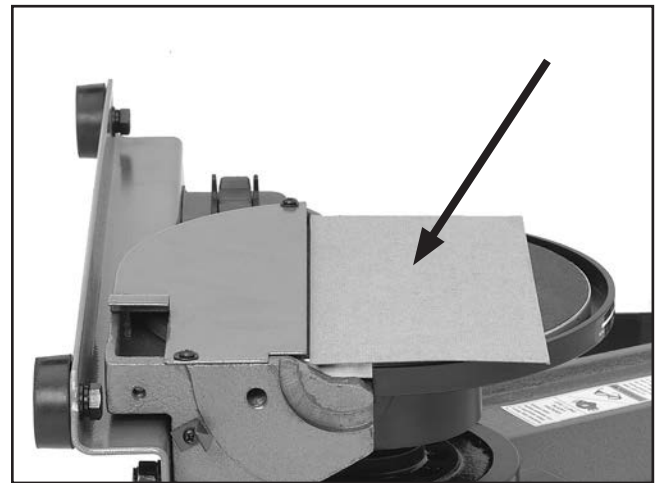

Figure 15. Using thin cardboard (approximately $\frac{1}{16}$ " thick) for table and sanding disc clearance gauge.
14. Lay the sander down on a flat surface, as shown in **Figure 15**, and place a thin piece of cardboard approximately $\frac{1}{16}$ " thick over the sanding disc. This piece of cardboard will act as a spacer when you install the disc table.